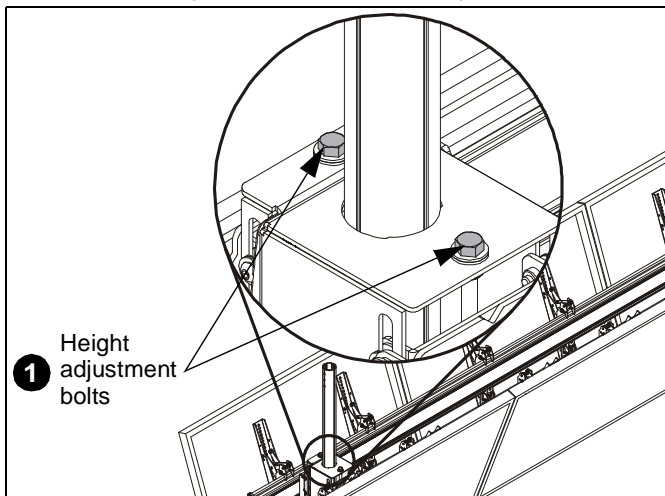

Figure 10
- Turn the height adjustment bolt(s) in the direction necessary for the desired height. (See Figure 10)